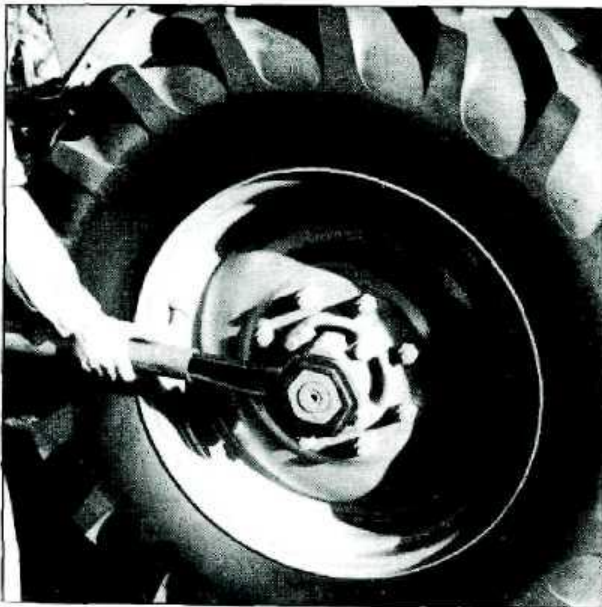

Fig. L.3 — Removing Axle Nut.
4. Remove the large hexagon nut, lock washer and pegged washer from the rear axle. Fig. L.3 shows the axle nut being removed with the axle nut spanner (P/N.21039)